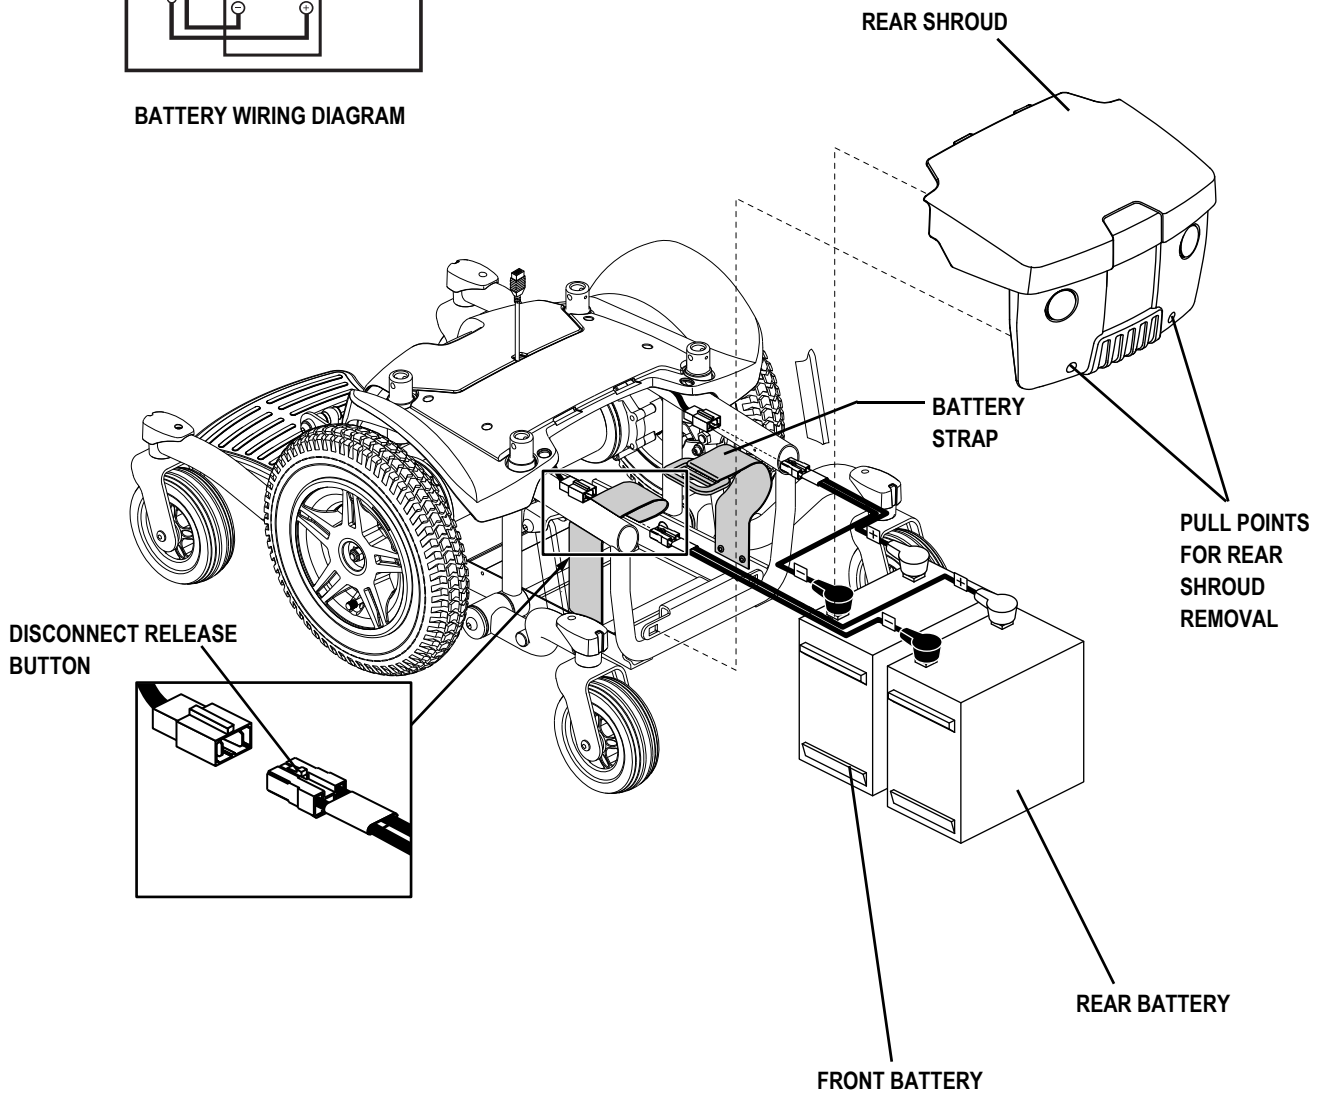

Figure 23. Battery Installation
A battery wiring diagram is printed on a decal located on the front battery tray. See figure 23. See VI. “Batteries and Charging” for correct battery specifications.
3. Pull to remove the rear shroud. See figure 23.
4. Push down on the disconnect release button and disconnect the rear battery harness from the power base. See figure 23.
7. Push down on the disconnect release button and disconnect the front battery harness from the power base. See figure 23.
10. Install a battery harness onto each new battery according to the battery wiring diagram. See figure 23. Make sure that you connect the red wire to the positive (+) battery terminal and the black wire to the negative (-) battery terminal for each battery.